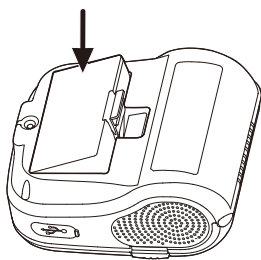

Figure 1
- (1) When installing or removing the battery, ensure that the printer's power is turned off.
- (2) As shown in Figure 1 below, insert the battery into the battery slot on the back of the printer in the direction of the arrow. Press the battery downward until the latch clicks into place.